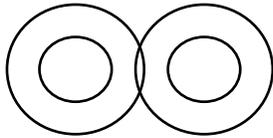
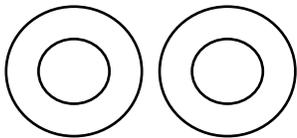
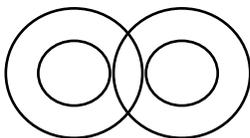

Fig. 1: CORRECT OVERLAP with Angle Knob at 7 o'clock Position.
Fig. 2: INCORRECT SEPARATION with Angle Knob at 7 o'clock Position.
Fig. 3: INCORRECT OVERLAP with Angle Knob at 7 o'clock Position.
2. Turn Angle Knob clockwise until indicator mark is at 7 o'clock position. If HW1000 or HW1500 Honing Wheels overlap 1/16" or LESS (Fig. 1) turn Angle Knob counterclockwise until indicator mark is at 4 o'clock position between White & Blue Dots & begin Step 5.
3. If HW1000 or HW1500 Honing Wheels are NOT OVERLAPPED (Fig. 2) with Angle Knob indicator mark at 7 o'clock position, turn Angle Knob counterclockwise one revolution until indicator mark is at 7 o'clock position. Repeat this step until overlap is 1/16" or LESS (Fig. 1) with Angle Knob indicator mark at 7 o'clock position. Turn Angle Knob counterclockwise until indicator mark is at 4 o'clock position between White & Blue Dots & begin Step 5.
4. If HW1000 or HW1500 Honing Wheels overlap MORE than 1/16" (Fig. 3) with Angle Knob indicator mark at 7 o'clock position, turn Angle Knob clockwise one revolution until indicator mark is at 7 o'clock position. Repeat this step until overlap is 1/16" or LESS (Fig. 1) with Angle Knob indicator mark at 7 o'clock position. Turn Angle Knob counterclockwise until indicator mark is at 4 o'clock position between White & Blue Dots & begin Step 5.